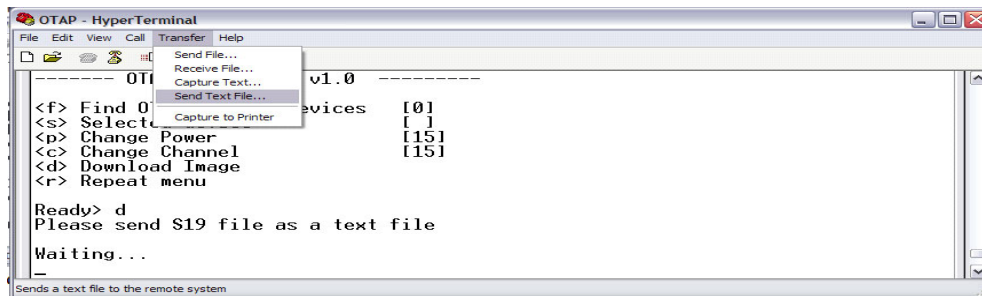

Figure 59. Sending the OTAP Image as a Text File
6. Send the image as a text file by selecting Transfer -> Send Text File, as shown in Figure 59.